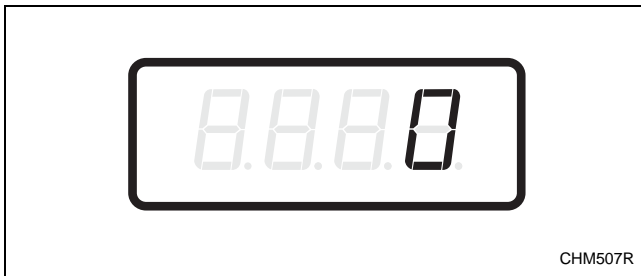

Figure 20
2. When “SA16” appears in the display, press the START (enter) keypad. There are five digits in the Special Vend A Delicate/Cold Vend Price. The fifth digit will appear in the display and will flash one (1) second on and one (1) second off. Refer to *Figure 20*.